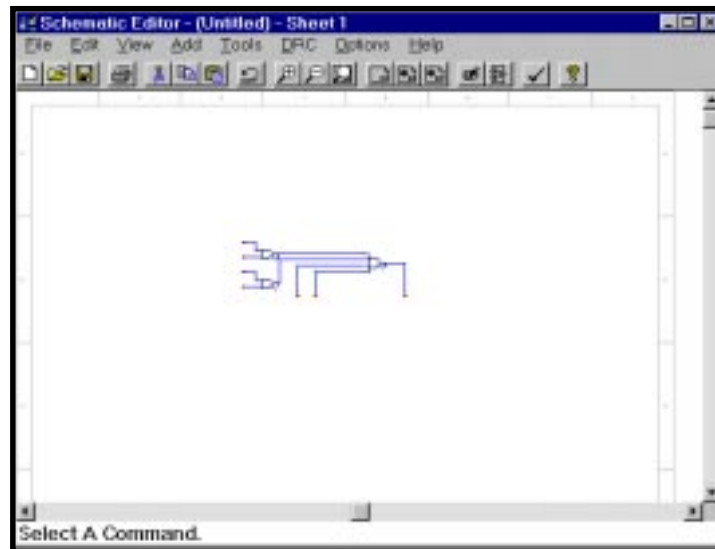

Figure 3-10. Building the Schematic
6. Repeat the above procedure to add other symbols or macros from the Symbol Library. Figure 3-10 is an example of a simple schematic.